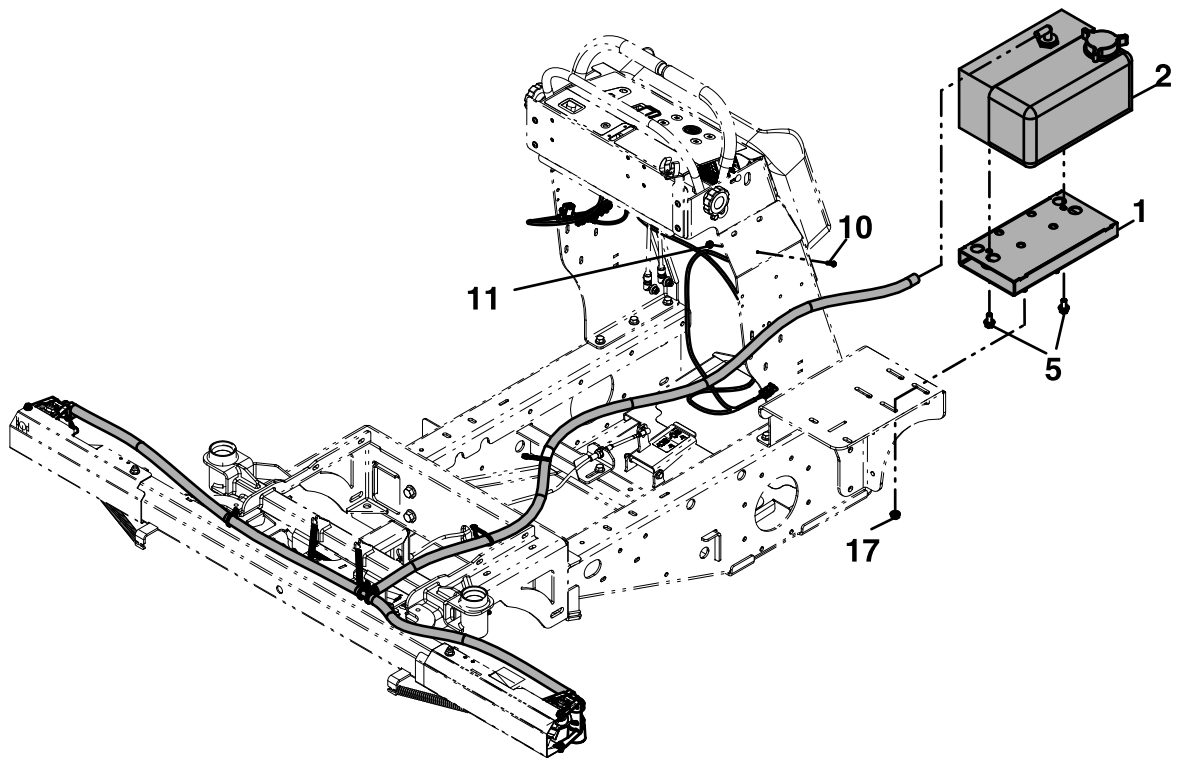

Figure 3
- For 30 Gallon and all 24 Gallon Models: The ground wire is located inside the LH tower panel (see items 10 and 11 in Figure 3).